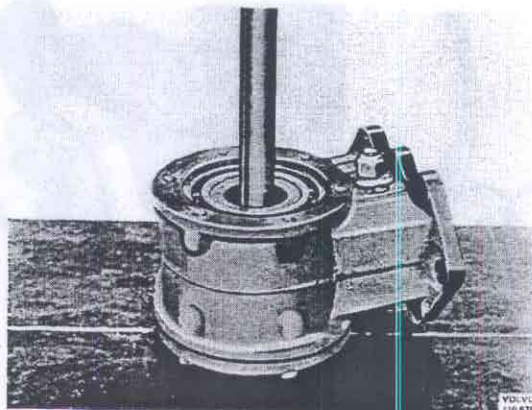

Fig 46-138 Removing the drive
6. Remove the cover on the housing for the gears. Place the power take-off in a press and press out the drive with a suitable drift, Fig. 46-138.